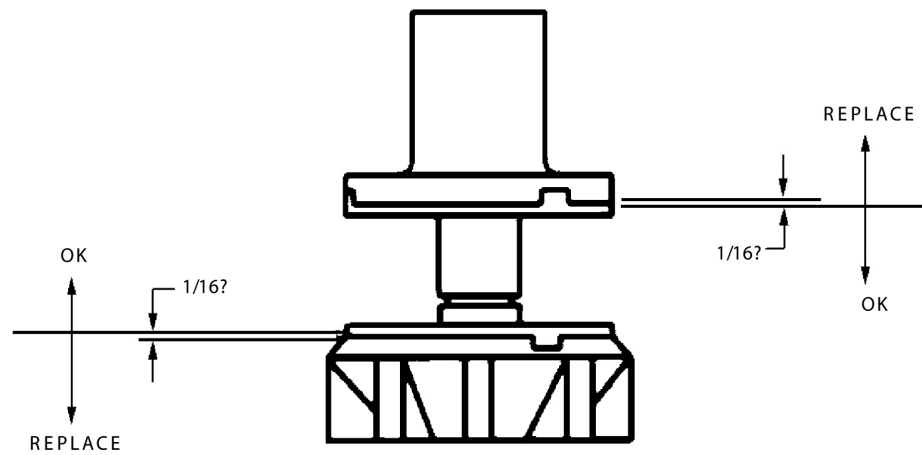

Figure 5. Upper Bearing and Auger Assembly
7. Check white upper bearings on auger assembly. If bearings are less than 1/16” thick, replace. See Figure 5.